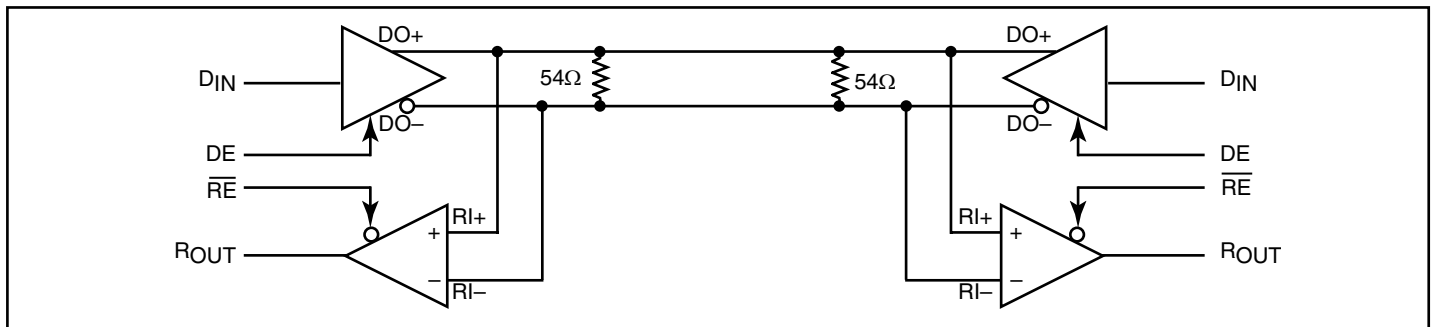

**Figure 8. Receiver Three-State Delay Test Circuit**
| t PHZ                                 | Disable Time High to Z                                    | R L = 500ΩFigures 8 & 9C L = 10pF (8) | 1.5  | 4.0  | 6.0  | ns    |